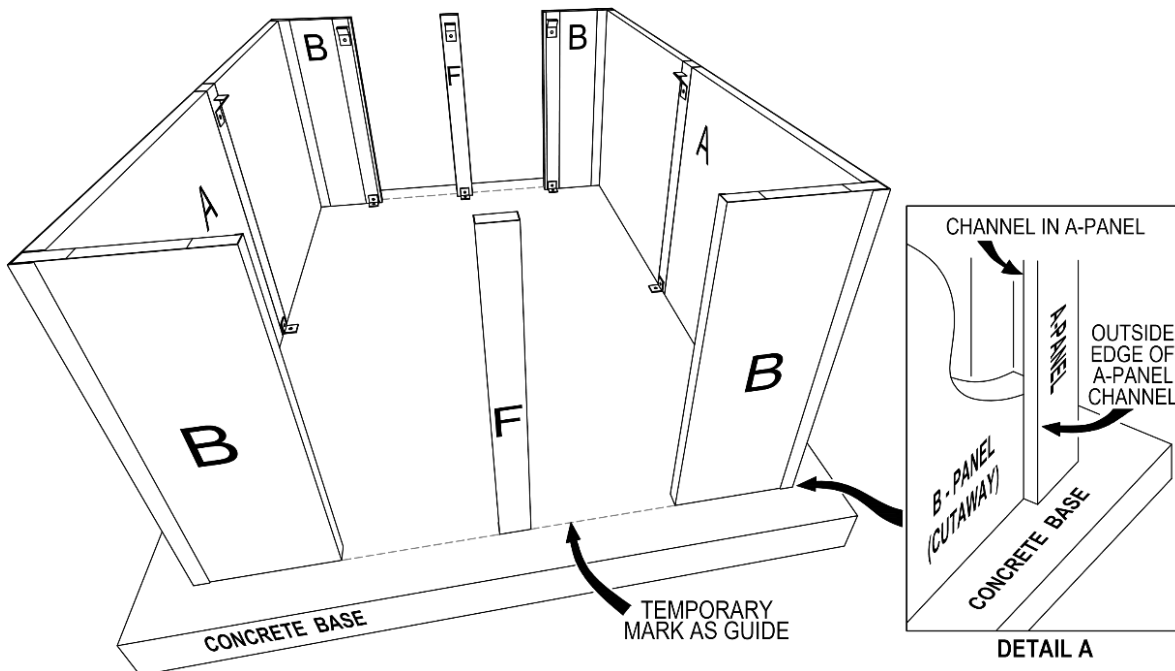

FIG. 1
5. Assemble the "B-A1-A2-B" (corner-end-corner) assemblies through the holes provided using Hex Head Screws. (For best results, insert a bead of silicone caulk into the inside bend of the "A#" panel corners.) Set them on the marked concrete base (Fig. 1).